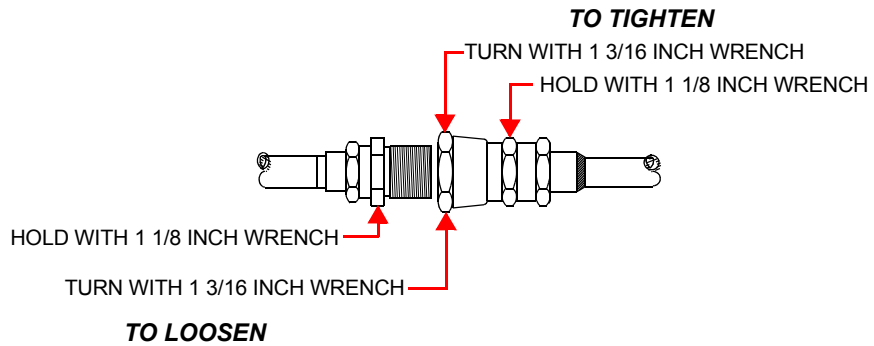
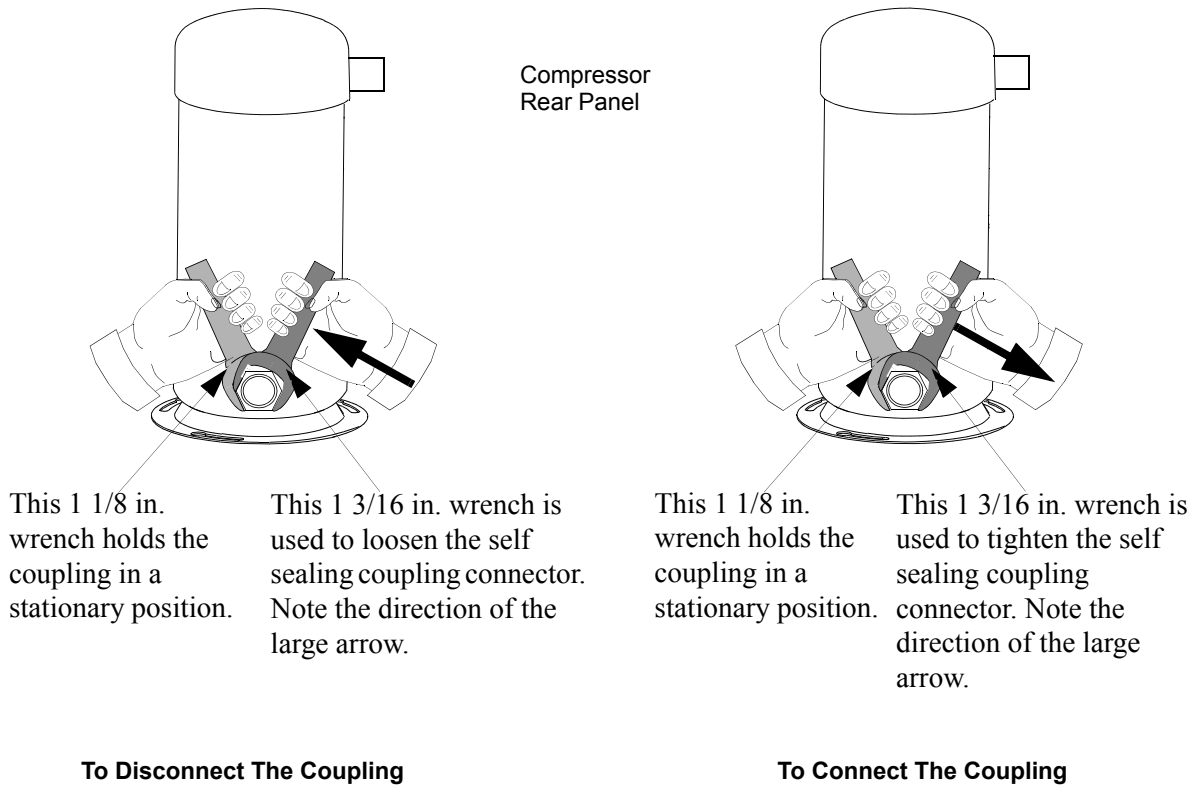

Figure 5-1: Adjusting the Self-Sealing Connectors
Figure 5-2: Disconnecting/Connecting the Adsorber Self-Sealing Coupling
6. Unscrew the two self-sealing coupling halves quickly to minimize gas leakage as shown in Figure 5-2 on page 5-3.
7. Disconnect the adsorber-inlet self-sealing coupling as shown in Figure 5-2 on page 5-3.
10. Remove the adsorber from the compressor as shown in Figure 5-2 on page 5-3.
2. Connect the adsorber to the compressor internal piping. Refer to Figure 5-2 on page 5-3.
CAUTION Equipment Damage To avoid damaging equipment, ensure you hold the left coupling nut while tightening the right coupling nut, as shown in Figure 5-2 on page 5-3 and Figure 5-1 on page 5-3 .
- b. Make the first turns by hand and then firmly seal the connection using the two wrenches until the fittings “bottom.” Refer to Figure 5-2 on page 5-3 and Figure 5-1 on page 5-3, for proper coupling of the self-sealing connection